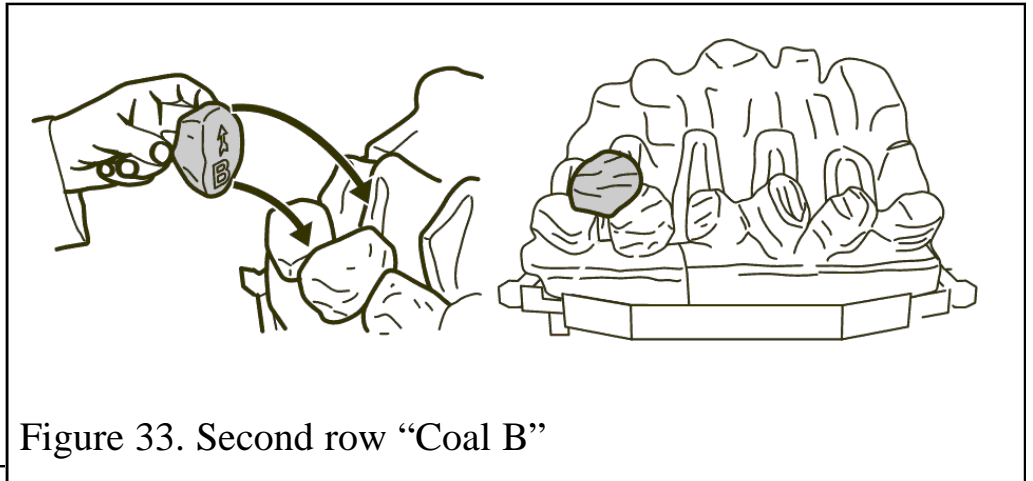

Figure 33. Second row "Coal B"
6. Hold coal 'B' upright with the arrow pointing to the top. Locate coal 'B' as shown in figure 33.